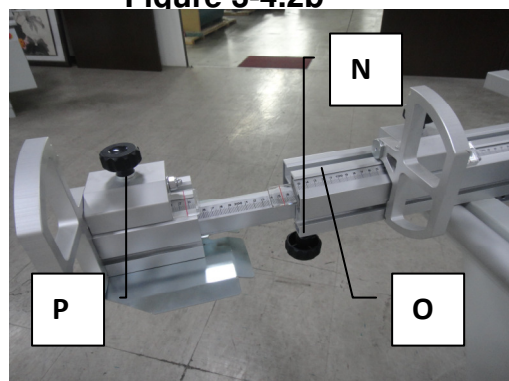

Figure 3-4.3
1. Unlocking knob **N**(Fig. 3-4.3) of the extension piece.
2. Slide the flip stop unit into groove **O** (Fig. 3-4.3). Then tight **P** (Fig. 3-4.3) to fix.